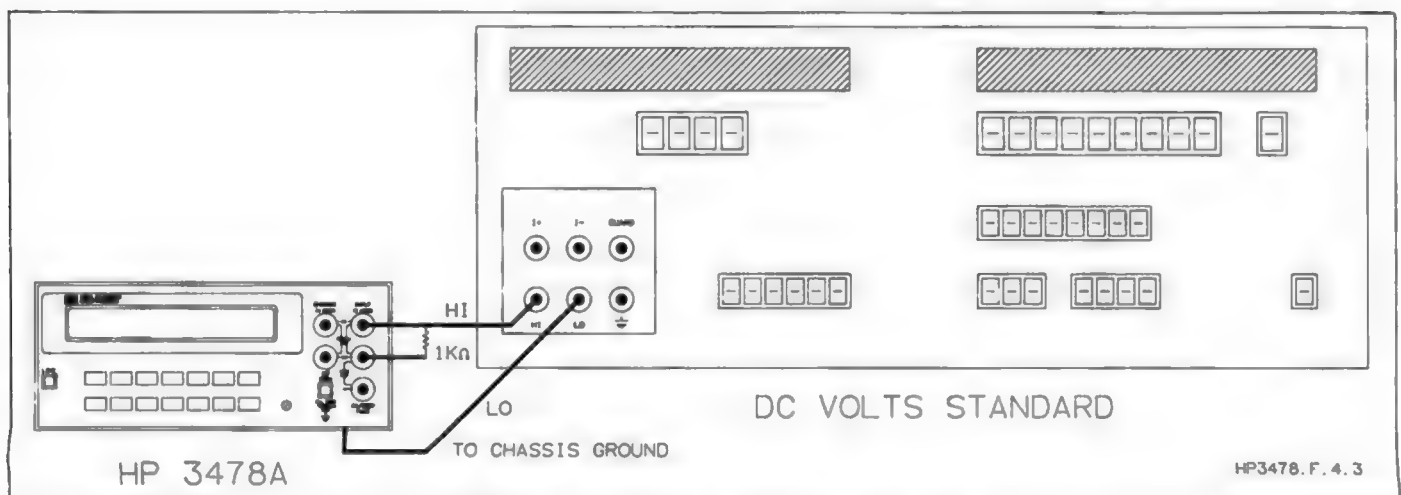

Figure 4-3. DC Common Mode Rejection Test
4. Ensure the DC Volts Standard's output is turned off. Connect the Standard so that the HI output lead is connected to the 3478A HI INPUT terminal. Connect the Standard LO output lead to the 3478A chassis (use the BNC shield on the rear panel). The connection is shown in Figure 4-3.